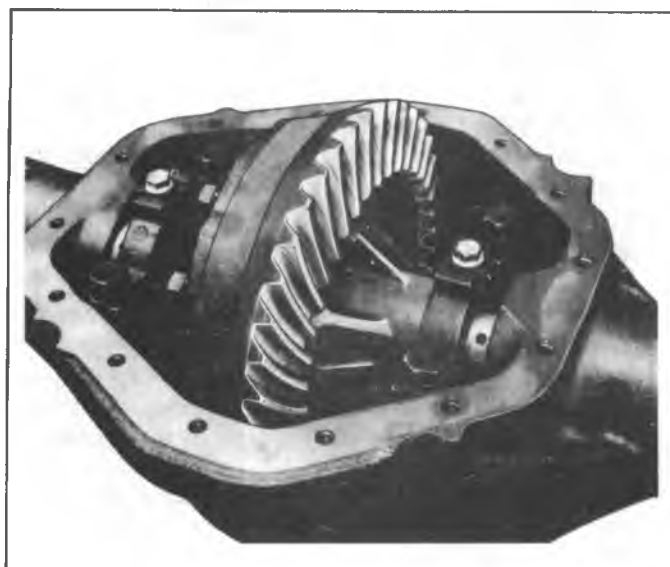

Fig. 4B2-8--Cover Removed from Carrier
6. Loosen side bearing adjusting nuts, using J-24429 as shown in figure 4B2-9.